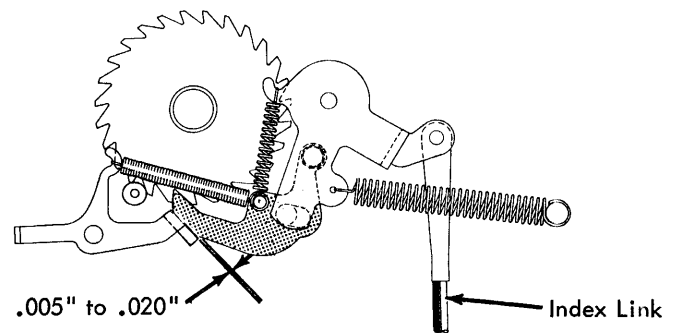

FIGURE 219. Platen Overthrow Stop Index Selector Cam
4. Platen Overthrow Stop - With the index cam rotated to its high point, adjust the platen overthrow stop to clear the index pawl by .005" to .020" (Fig. 219).